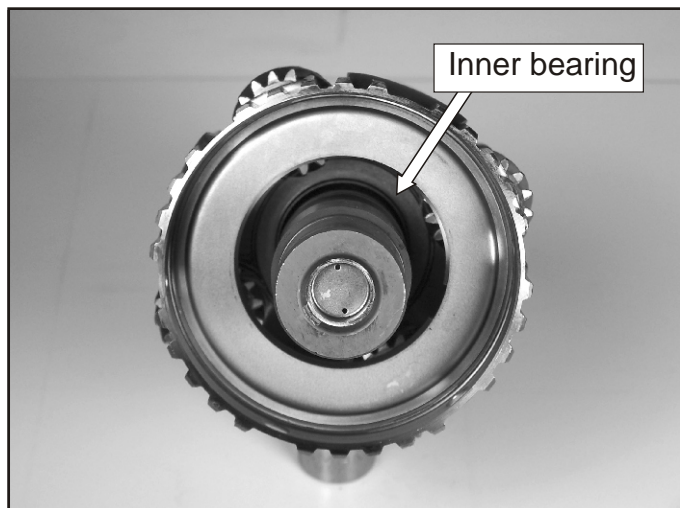

Figure 162
- 107. Inspect the inner planetary bearing as shown in Figure 162.